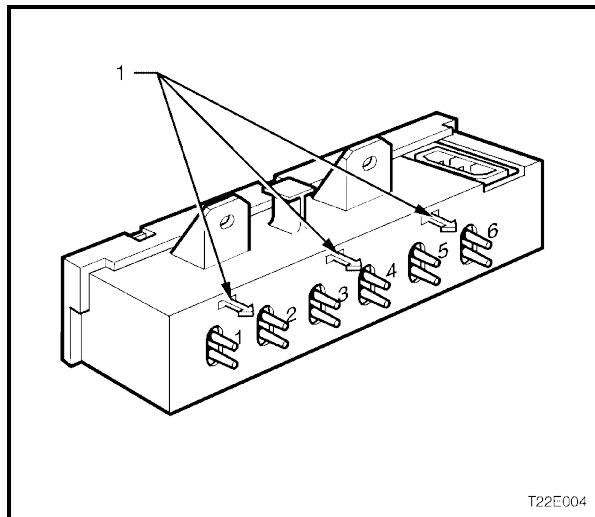

Figure 2E-2
2. Ensure that the vacuum tubing is connected to the correct ports of the solenoid pack. Figure 2E-3 shows the solenoid outlets from the vacuum solenoid pack.